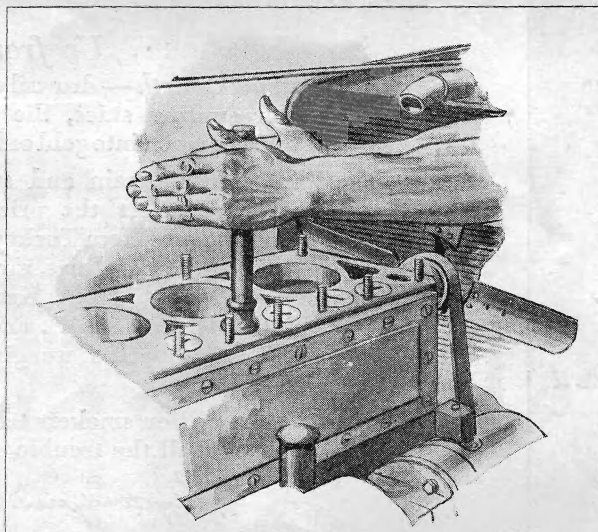

Fig. 3. Cut off a plumber's force cup to fit the valve head and you have a simple grinding device.
AN ORDINARY plumber's force cup, such as is used for clearing clogged drain pipes, can be fashioned into a useful valve-grinding tool. The lower part of the rubber cup is cut off so that the diameter of the remaining portion is smaller than the diameter of the head of the valve. Pressing the cup tightly against the valve will cause the rubber to adhere so the valve can be rotated and lifted from time to time, as shown in Fig. 3.
R. L. Ogden, of Edgewater, Colo., wins this month's \$10 prize for his suggestion of a valve-grinding tool, as shown in Fig. 3. Each month POPULAR SCIENCE MONTHLY awards \$10, in addition to regular space rates, for the best idea sent in for motorists. Other contributions used are paid for at the usual rates.